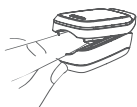

Figure 6
3. Fully insert finger as shown in Fig 6.